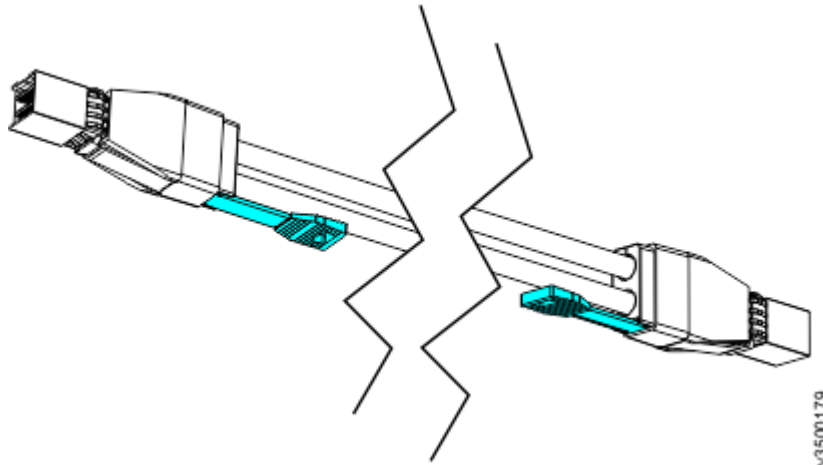

Figure 80. Mini SAS HD to Mini SAS HD cable
- Mini SAS HD to Mini SAS HD (Figure 80 on page 92)